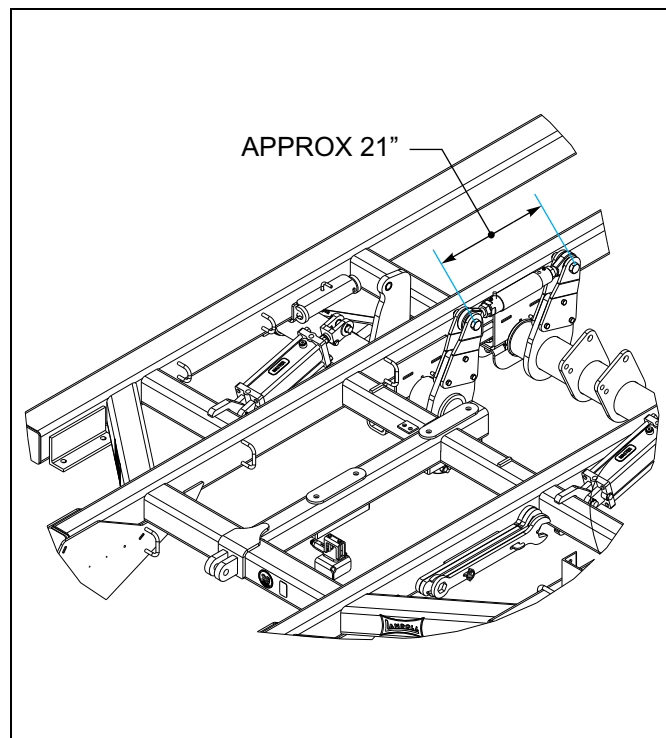

Figure 4-6: Radius Rod Measurement
7. With the cylinders still fully retracted, install the adjustable radius rod between the two main lifts. This will insure the lifts are properly timed and not binding. The radius rod centers will be approximately 21" long (See Figure 4-6.)